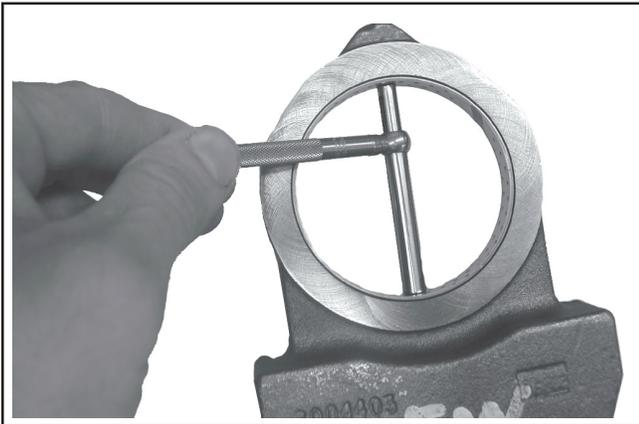

Figure 9-4. Measuring Balance Weight Bearing Surface.
1. Use an inside micrometer, telescoping gauge, or bore gauge and measure the inside diameter of the balance weight bearing surface. Take two measurements 90° to each other on each weight. See Figure 9-4.